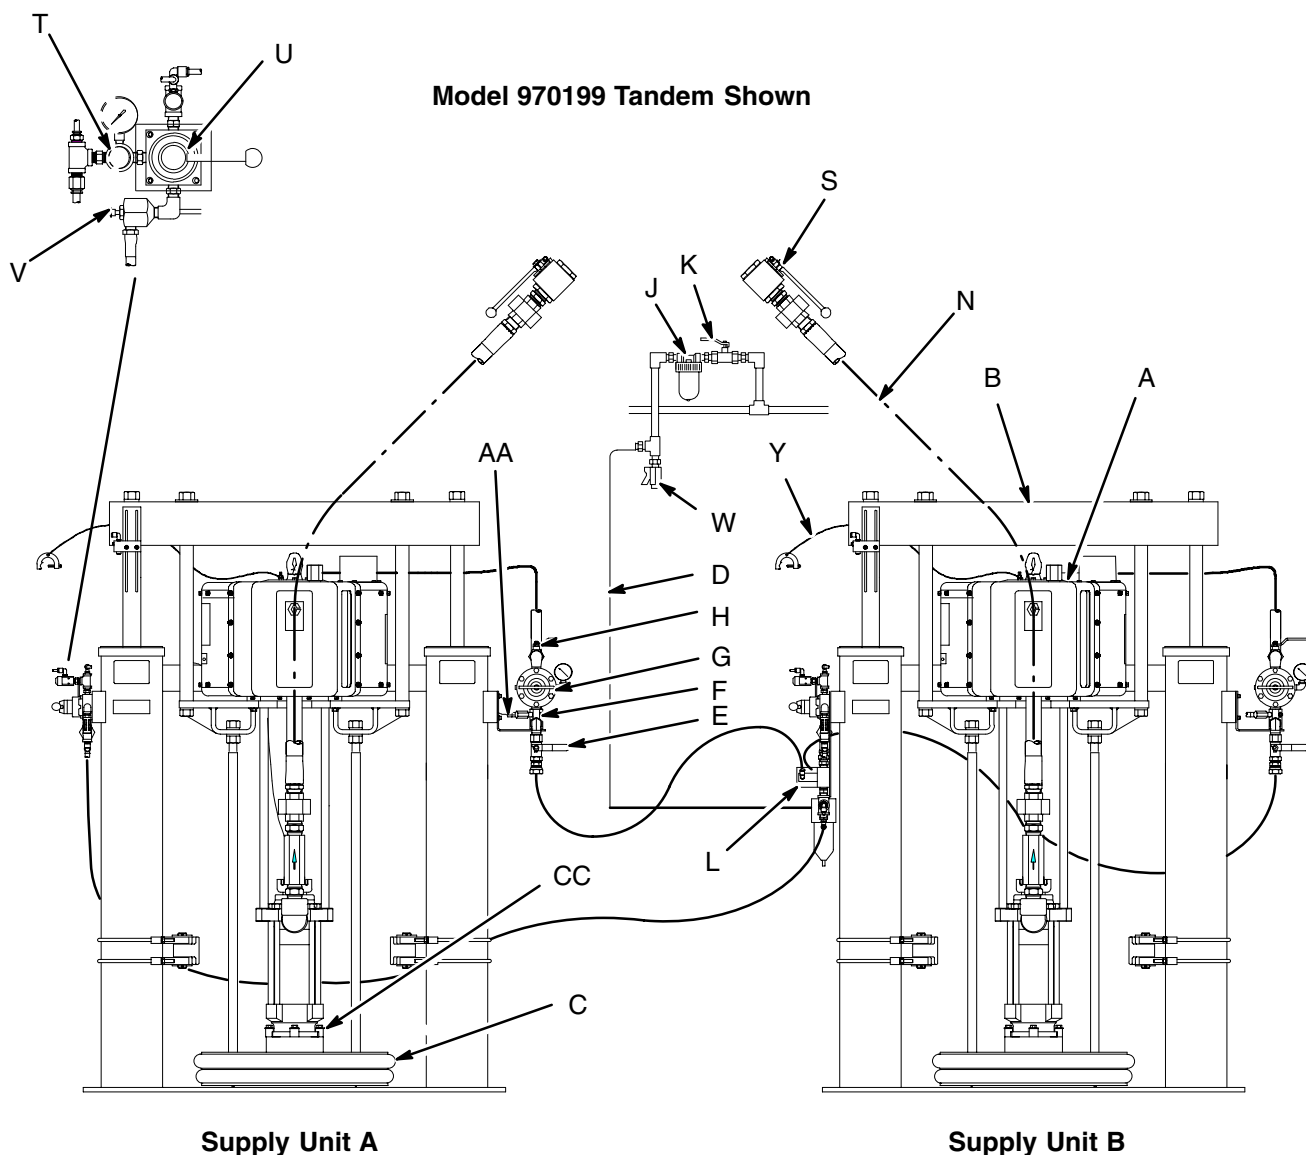

Fig. 1
System 970201 is a single 55 gallon supply unit with a low-level shutoff. See Fig. 1.
Be sure all air hoses (D) and fluid hoses (N) are properly sized and pressure-rated for your system. Use only electrically conductive hoses. See Fig. 1.
2. Close dispenser ball valves (S). Unhook ball valves from system. See Fig. 1.
3. Close pump air bleed valve (H, required in your system). See Fig. 1 or Fig. 6.
4. Shut off main air bleed valve (E, required in your system). Set ram director valve (U) to DOWN. Ram will slowly drop.